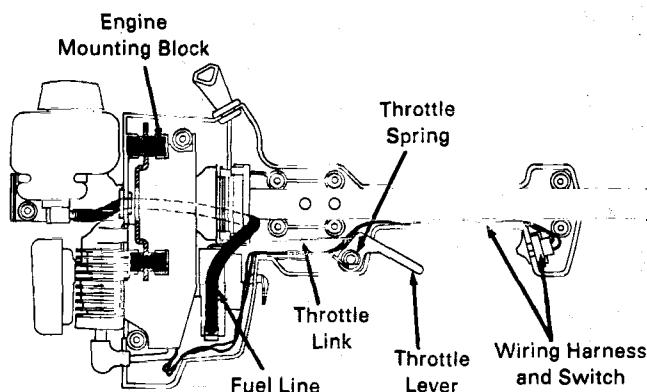

Figure 18
6. **IMPORTANT:** Note how the fuel line, throttle lever, throttle link, spring, switch, and wiring harness are routed and attached (Fig. 18).